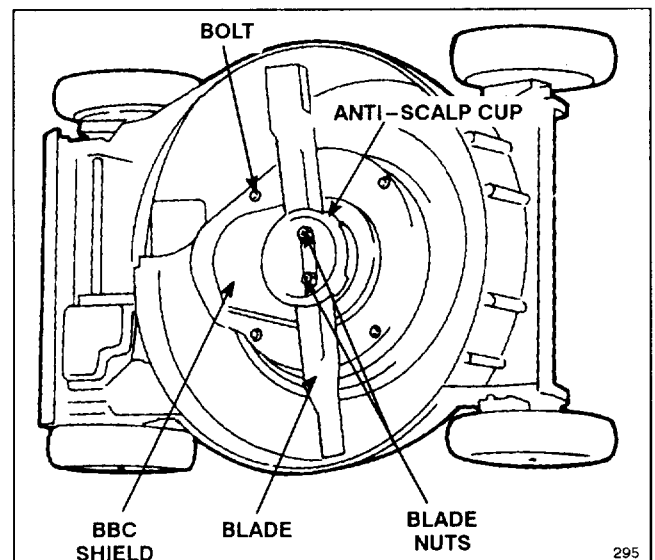

Figure 29
4. Remove (2) blade nuts, anti-scalp cup, blade, blade spacer, and (4) bolts securing BBC shield to mower deck (Figs. 29 & 30).